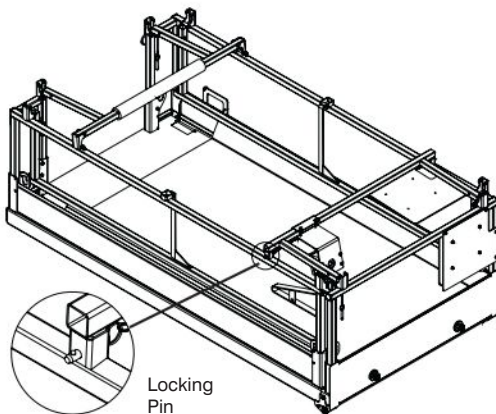

Figure 3-13c. All Guardrails Folded Down
Lock extension guardrail into place on the mounting post. Ensure that the detent ball of the pin is all the way through. (Refer to Figure 3-13c)
- Remove locking pin from mounting post and carefully raise extension guardrail up and lock into place with locking pins ensuring that the detent ball of each pin is all the way through (Refer to Figure 3-13c).